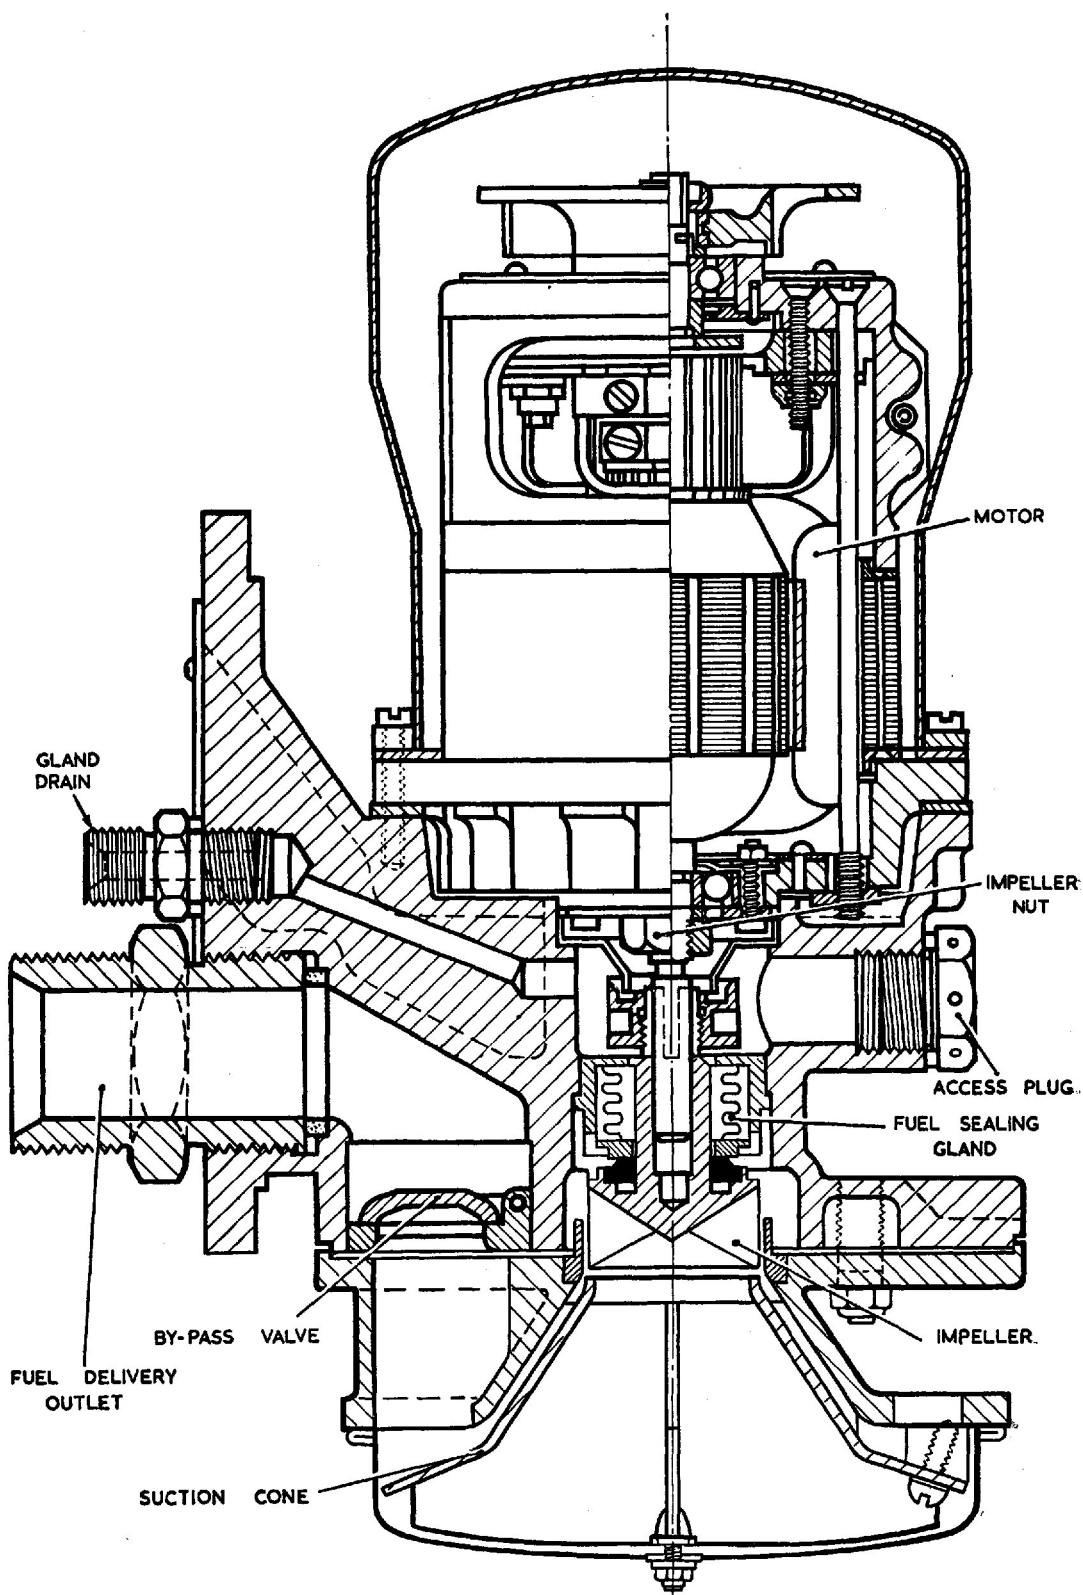

Fig. 1. Part sectional view of FB 60, Mk. 5 fuel pump
3. The complete pump (*fig. 1*) comprises an electric motor mounted on a pump assembly which has a large flange to permit the unit as a whole to be secured to the side of the air-